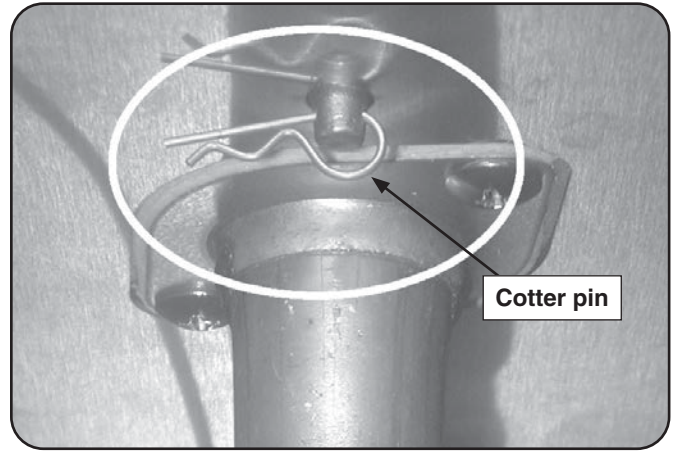

Fig. 47-1 Remove cotter pin
3. Reach up under the burner support and remove the cotter pin (see Fig. 47-1), located at the rear of the burner pipe.